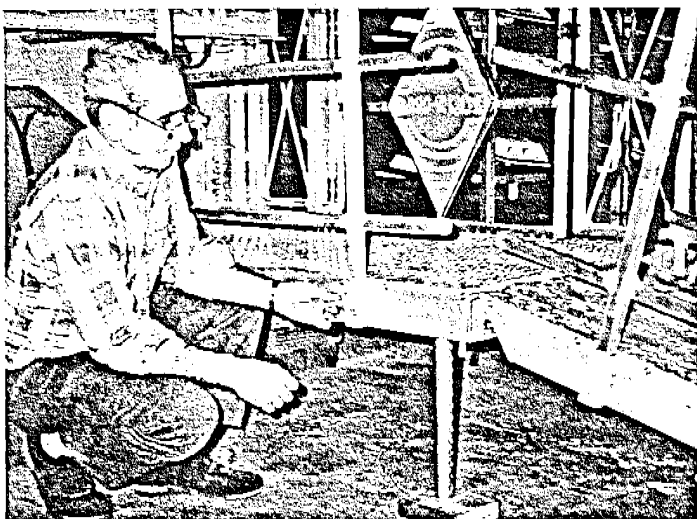

FIGURE 24
5. **USE GOOD JUDGEMENT** when installing entrance and exit ramps. Steep ramps are unsafe. (See Figure 24).